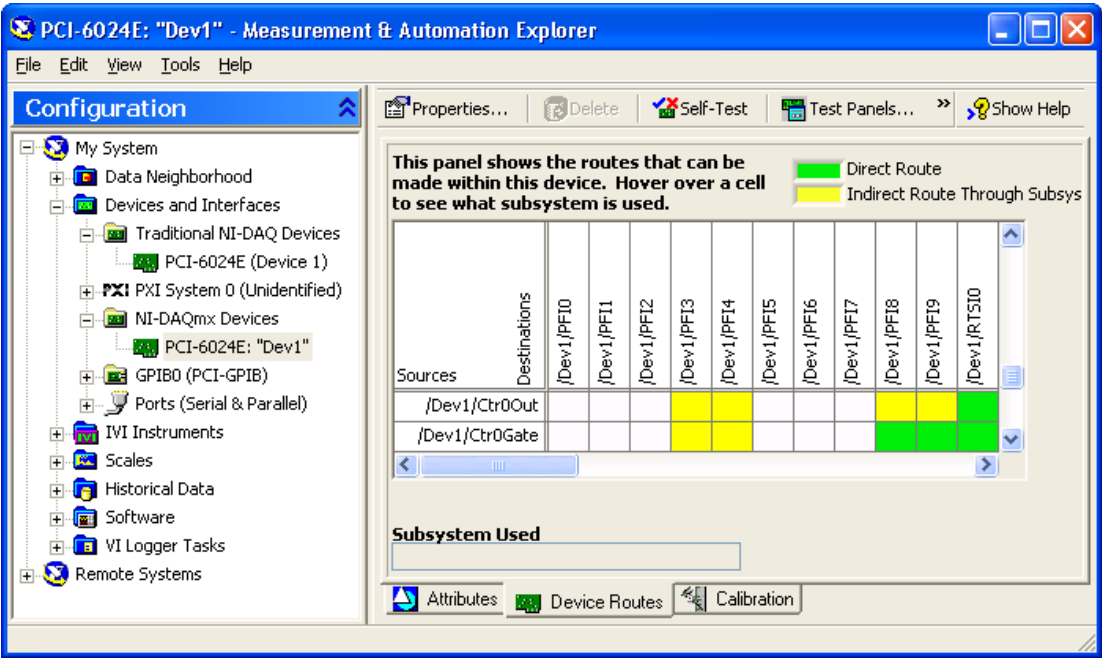

Figure 10.4
3. The Device Routes (Figure 10.4) tab provides detailed information about the internal signals that can be routed to other destinations on the device. This is a powerful resource that gives you a visual representation of the signals that are available to